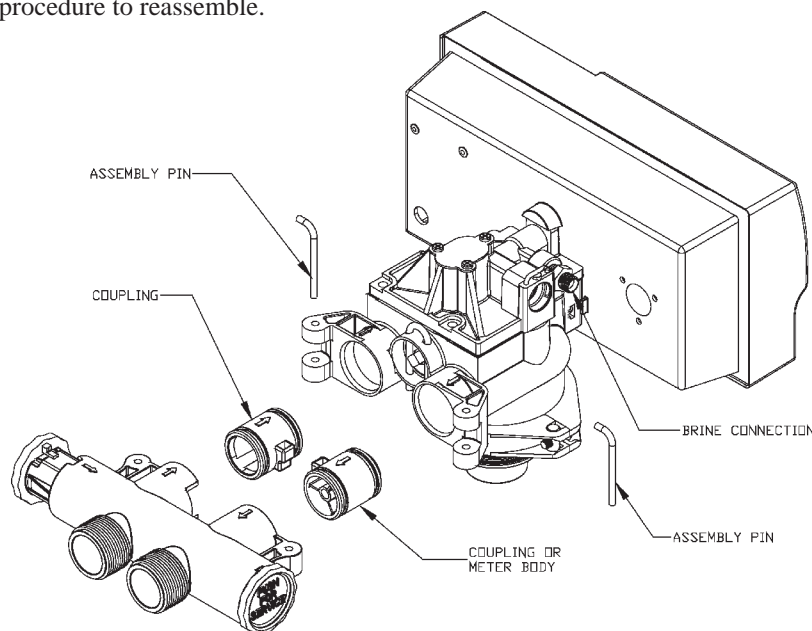

FIG. 5
The bypass valve connects directly to the control valve with a pair of couplings and two assembly pins (Figure 5). Lubricate all o-rings on the couplings with silicone lubricant.
On Soft-Minder[®] meter controls, the meter replaces the coupling on the outlet side of the control. The meter body fits in the same space as the coupling between the control valve and the bypass. Make sure that the arrow on the flow meter is pointing in the direction of flow (Figure 5).
Refer to Figures 5 & 8.
- Slip the white nut over one end of the tubing and press the plastic insert into the end of the tubing (Figure 8). Connect to the brine connection on the valve and tighten nut (Figure 5).